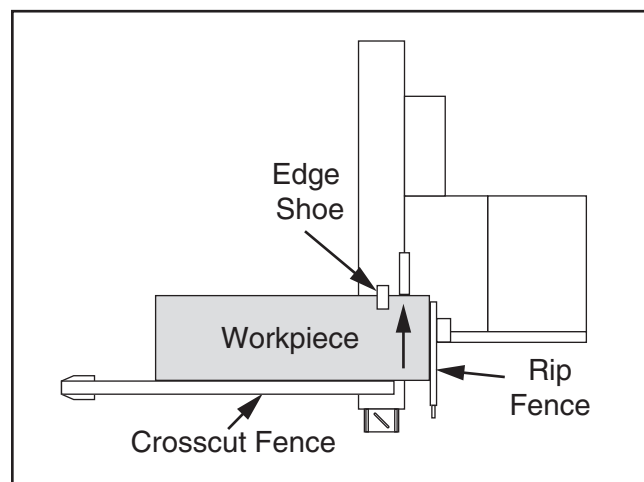

Figure 111. Crosscutting using rip fence as a cut-off gauge.
When set up properly, the crosscut fence can support workpieces while using the rip fence as a cut-off gauge, as shown in **Figure 111**.
1. Install crosscut fence in rear position of crosscut table, as illustrated in **Figure 111** on **Page 54**.